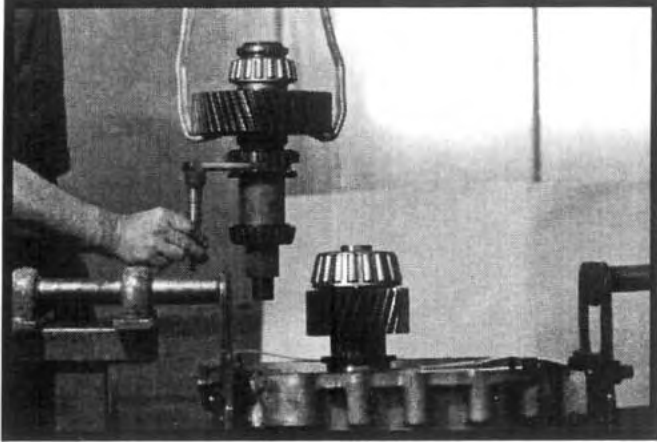

Figure 4.10
15. Lift the front output shaft subassembly, together with its shifter shaft/fork, from the housing. See Figure 4.10.